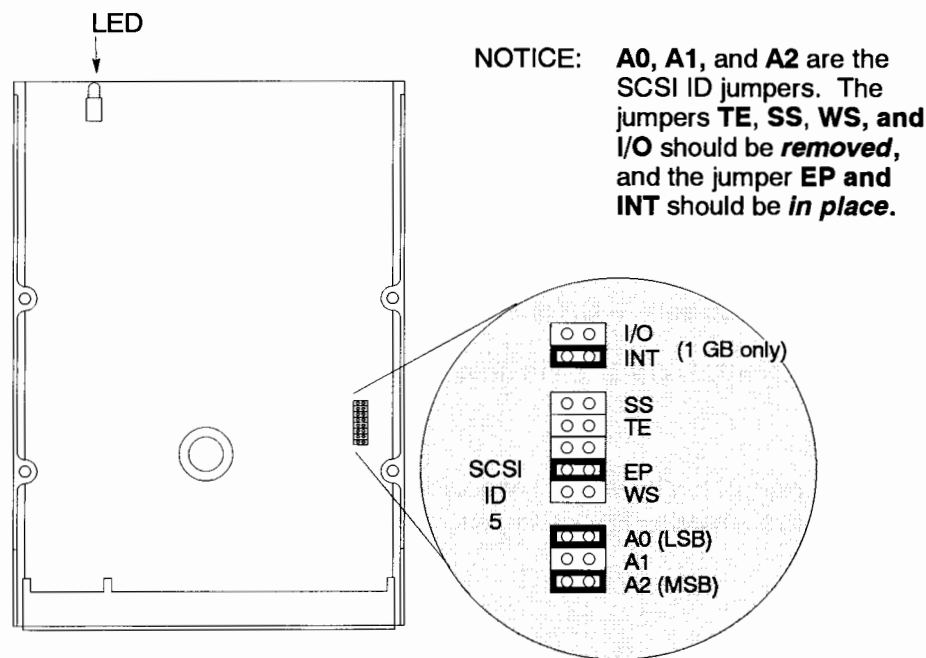

Figure B-33. Quantum 525-MB and 1-GB Disk Drive Jumpers
- For a Quantum 525-MB drive, refer to Figure B-33.